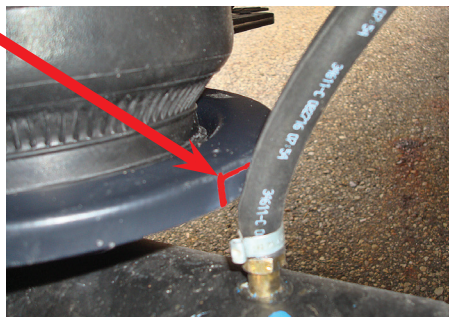

fig. C.15a
- On some models, the roll plate on the driver's (left) side may come in contact with the vent tube hose that comes out of the axle on the driver's (left) side. It may be necessary to modify the roll plate by cutting or grinding a small section out to clear the hose. The lower bracket must sit flush on the axle with no axle vent tube interference (Figs. C.15a & C.15b). Spray paint any exposed metal from grinding or cutting the roll plate before the final installation of the assembly.